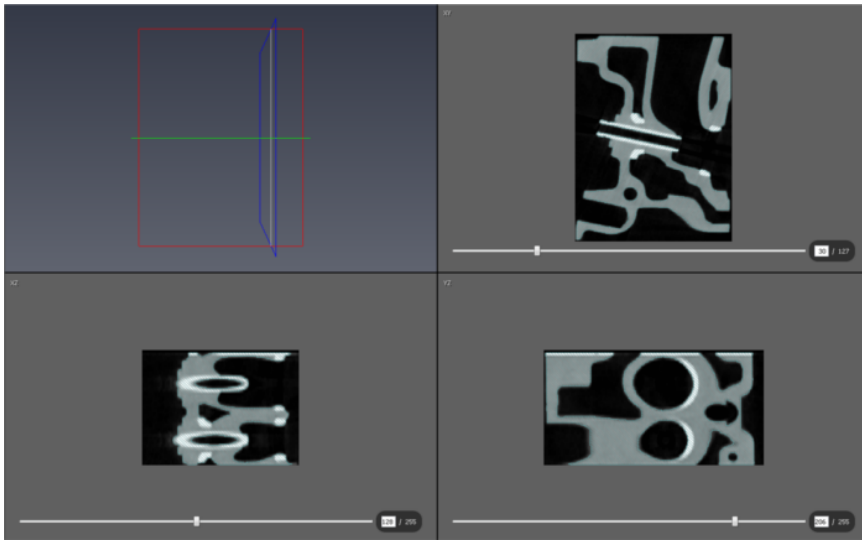

Figure 3.40: Segmented CT Scan Data
- In the YZ view, use the slider on the bottom to select slice 206 (see Figure 3.40).